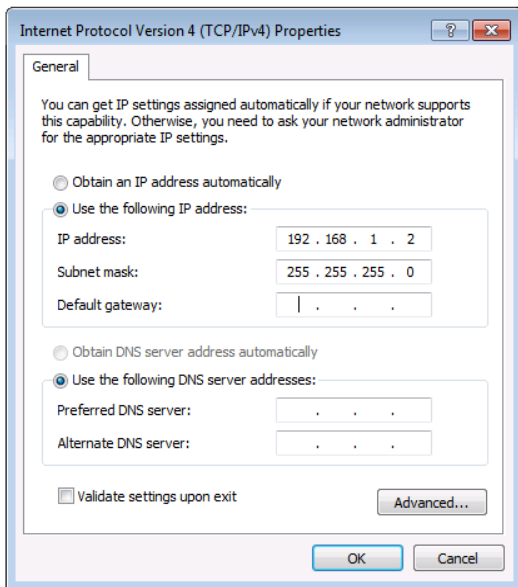

Figure 11: Internet Protocol Properties Window
6. Select **Use the following IP Address** for static IP addressing and fill in the details as shown in Figure 11.